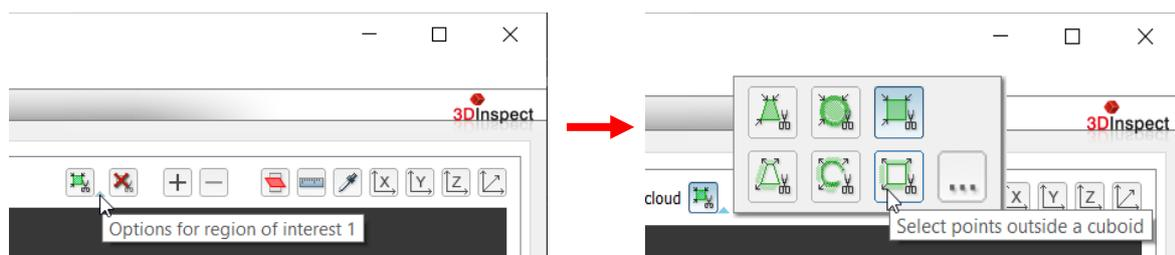

Fig. 3.60: "Region of interest options" context menu (Cuboid/Cylinder/Prism, Use points inside/outside the ROI)
- ➔ Open the "Region of interest options" context menu. Click on the corresponding icon to the right of the "Set region of interest" button (see Fig. 3.60).
- ➔ Select the desired type and mode from the context menu (see Fig. 3.60).
- Open the context menu for the desired ROI (see above, Fig. 3.60).